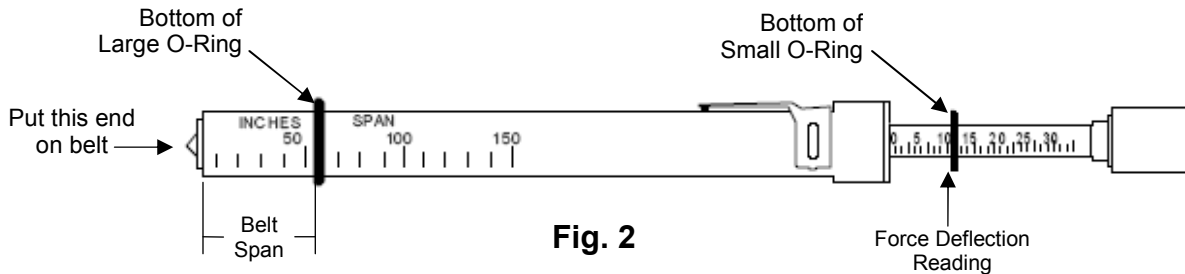

Fig. 2
2. Position bottom of the large "O" ring on the span scale at the measured belt span as shown in **fig.2**.